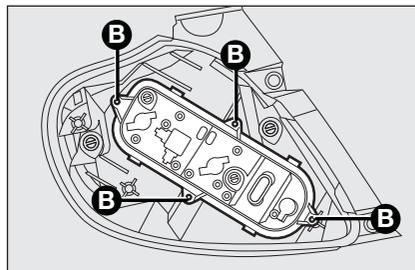

fig. 20
- extract the bulb holder from its seat after releasing the four fixing screws **B-fig. 20**;